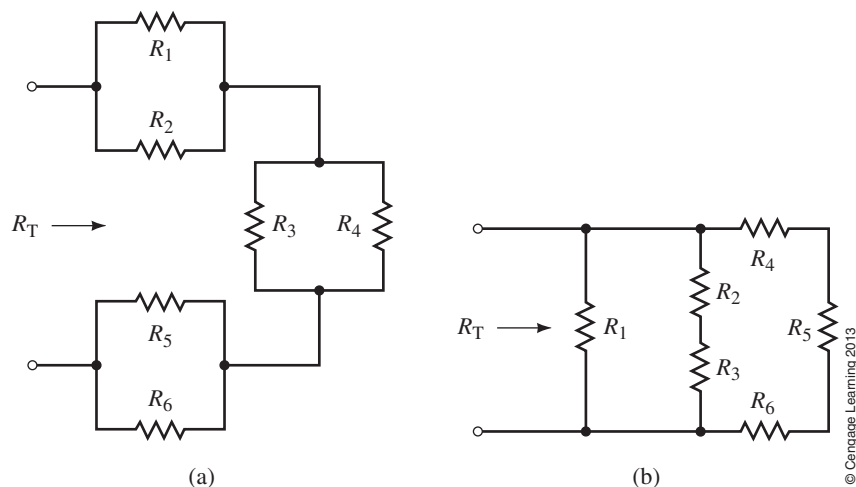

FIGURE 7-47
2. For each of the networks of Figure 7-47, write an expression for the total resistance, R_T .